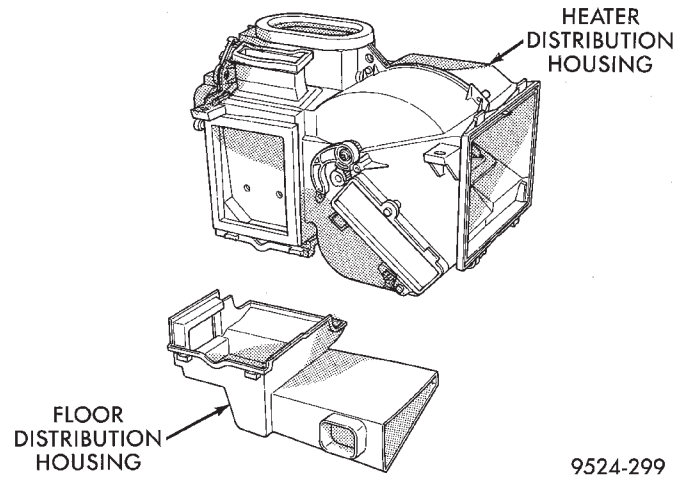

Fig. 92 Lower Floor Distribution Housing
(23) Remove lower heat/distribution housing clips. Remove housing (Fig. 92).